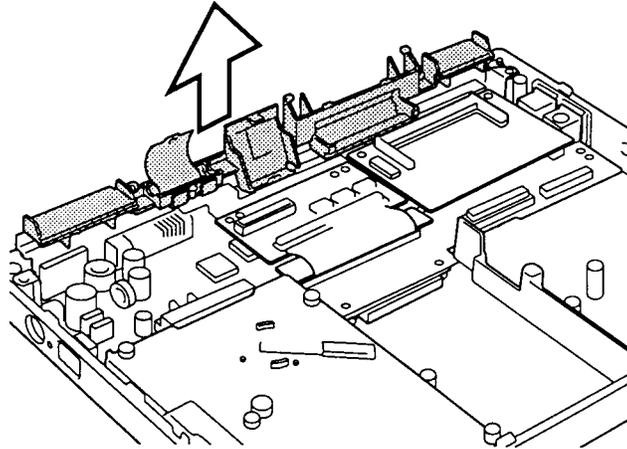

Figure 4-25 Removing the speaker/LED board/backup battery table frame
- Lift out the speaker/LED board/backup battery table frame from the system unit (figure 4-25). Note the routing of the backup battery cables.